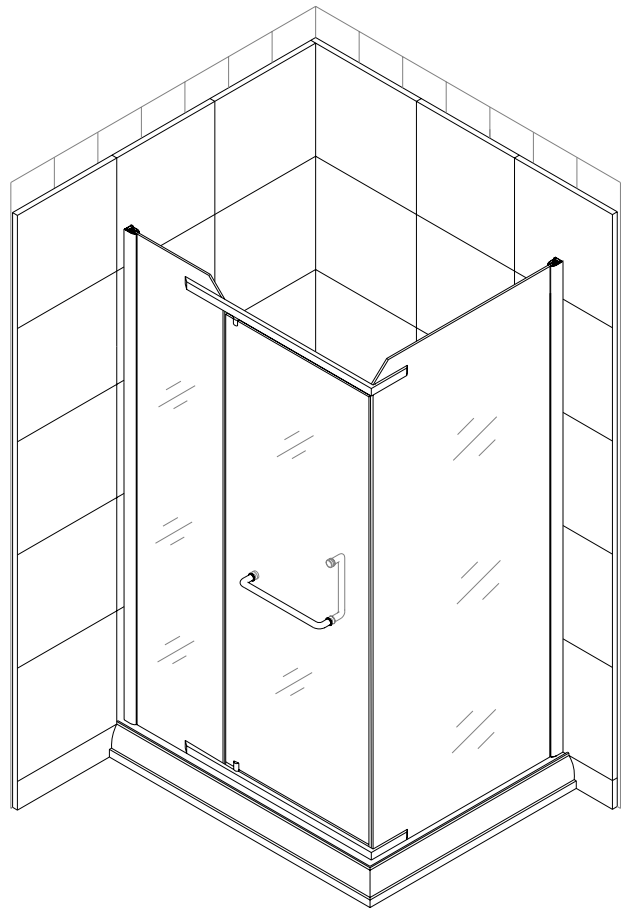

Fig 8
9. Install the **Handle** to the **Glass door**. Locate the Vertical Handle and the Horizontal Handle (9). The horizontal handle will be on the outside and the vertical handle will be on the inside of the door. Start the installation from the outside which will involve the horizontal handle first. Don't forget to use the rubber gaskets between the glass and washers (Fig 8).